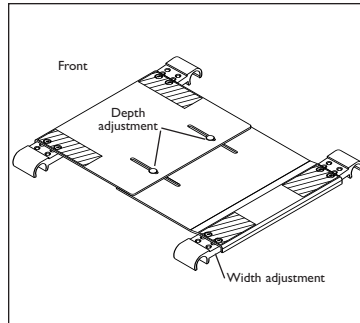

Figure 2
- b) Position the seat mounting clips to the desired position (Figure 2), reattach the screws. Each hole is .5" apart for a total of 2" of width adjustment range.
- b) Reposition seat pan to the desired length (Figure 2), and reattach the lock nuts.